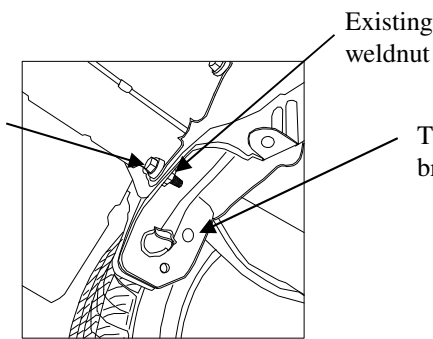

Figure 2.
①	Qty. (2)	Hex bolt M8 X 1.25 X 35 CL9.8	⑤	Qty. (2)	Hex nut 1/2-13
②	Qty. (2)	Hex bolt 1/2-13 X 2.00 GR5	⑥	Qty. (2)	Hex bolt 3/8-16 X 1.75 GR5
③	Qty. (4)	Spacer	⑦	Qty. (4)	Conical washer 3/8"
④	Qty. (2)	Conical washer 1/2"	⑧	Qty. (2)	Hex nut 3/8-16
1. Remove appearance panel which covers the trunk pan. Remove the (7) plastic rivets that fasten the fascia tabs to the vehicle. Note: Remove the center of the rivet with a screwdriver. Return appearance panel and fasteners to vehicle owner.
2. Remove existing M8 bolts (2) from end of each frame rail. Return fasteners to owner. See Figure 2.